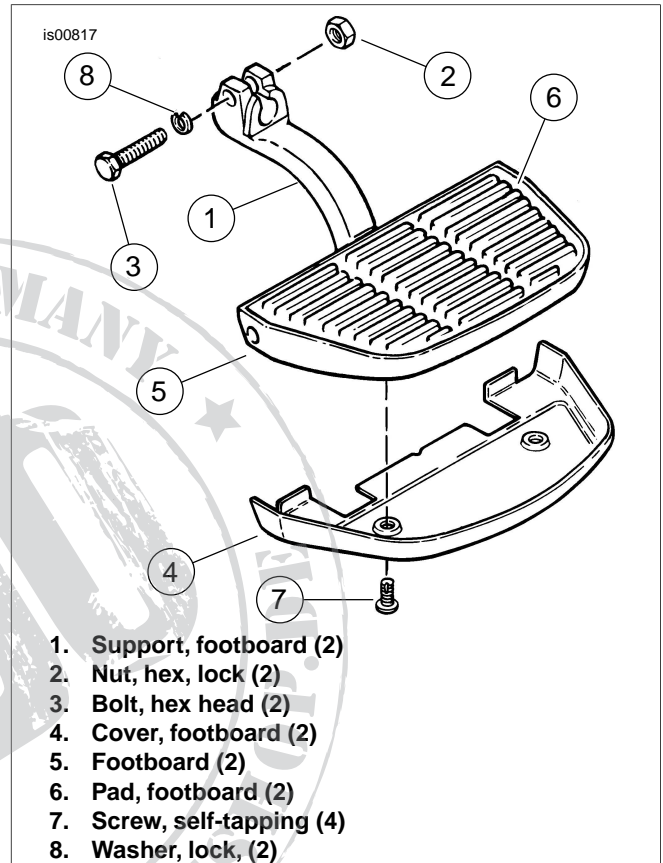
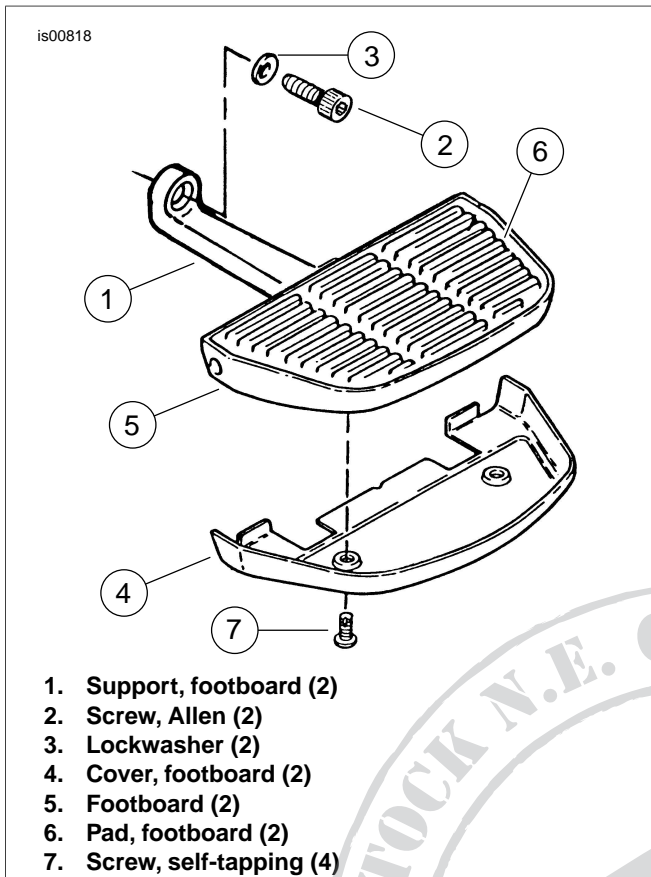

Figure 1. Passenger Footboard and Cover Assembly - 1992 and Earlier Model Vehicles
Figure 2. Passenger Footboard and Cover Assembly - 1993 and Later Model Vehicles
1. **For all 1992 and Earlier model vehicles:** See Figure 1. Remove passenger footboard assembly, including footboard support (1), from mounting stud on motorcycle. Depending on type of footboard support, this will require either removal of self-locking nut (2) and bolt (3), or removal of bolt (3) and lock washer (8) from footboard support split hub.
1. **For all 1993 and Later model vehicles:** See Figure 2. Remove passenger footboard assembly, including footboard support (1), from mounting stud on motorcycle. This will require removing the 3/8 in. Allen screw (2) and lockwasher (3) from footboard support.
2. **For all model vehicles:** See Figure 1 or Figure 2. Position cover (4) from kit onto underside of footboard (5). Mark location of the two mounting holes of cover onto underside of footboard. Remove cover from footboard. Use a center punch to make a small indentation in exact center of each marked-off position on footboard; this will help to prevent the drill bit from "walking" during the following drilling procedure.